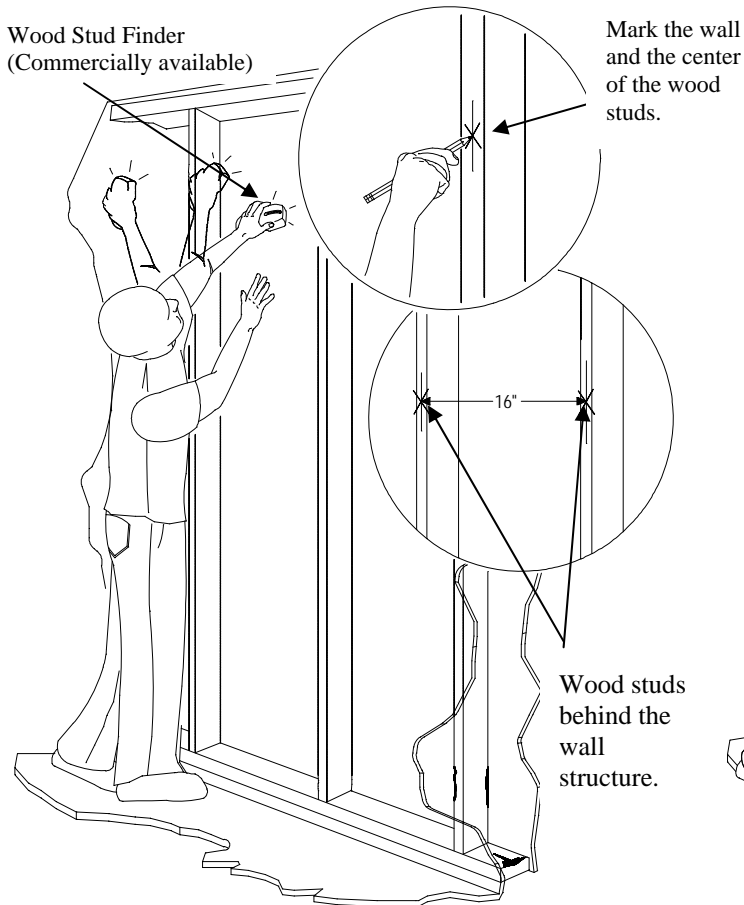

Figure 12
1. Using a (commercially available) wood stud finder, locate the 16" or 24" stud centers behind the wall (Figure 12).